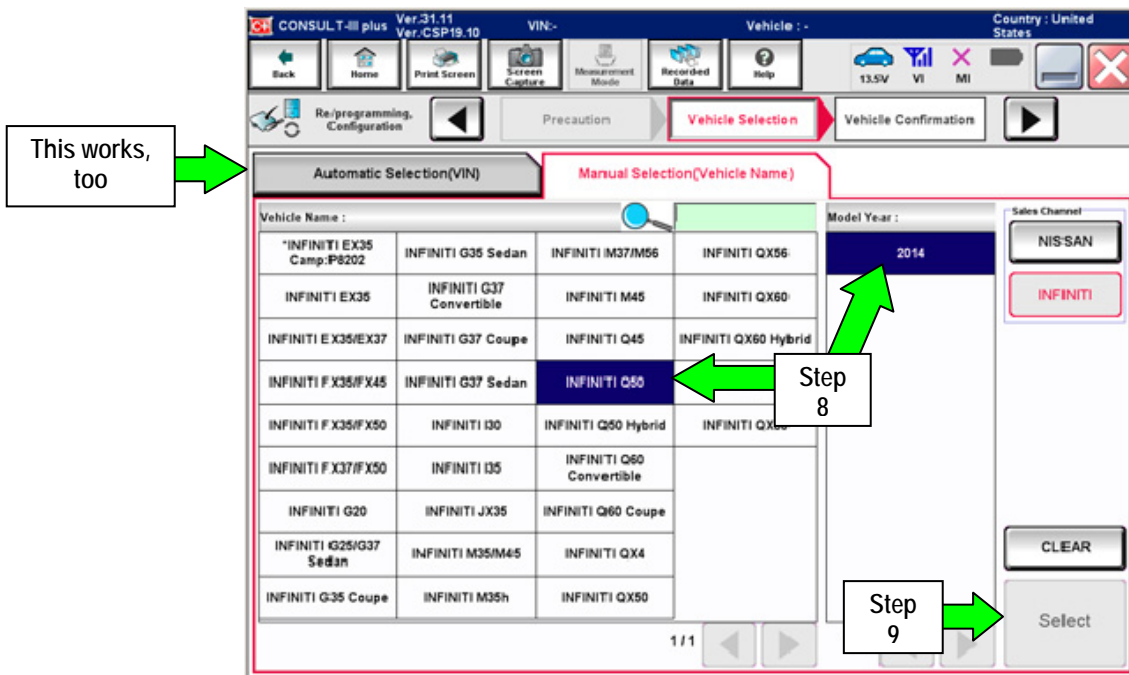

Figure 3
- If **Automatic Selection (VIN)** is selected, or the screen in Figure 3 does no display, skip to step 9.
- If **Automatic Selection (VIN)** is selected, or the screen in Figure 3 does no display, skip to step 10.